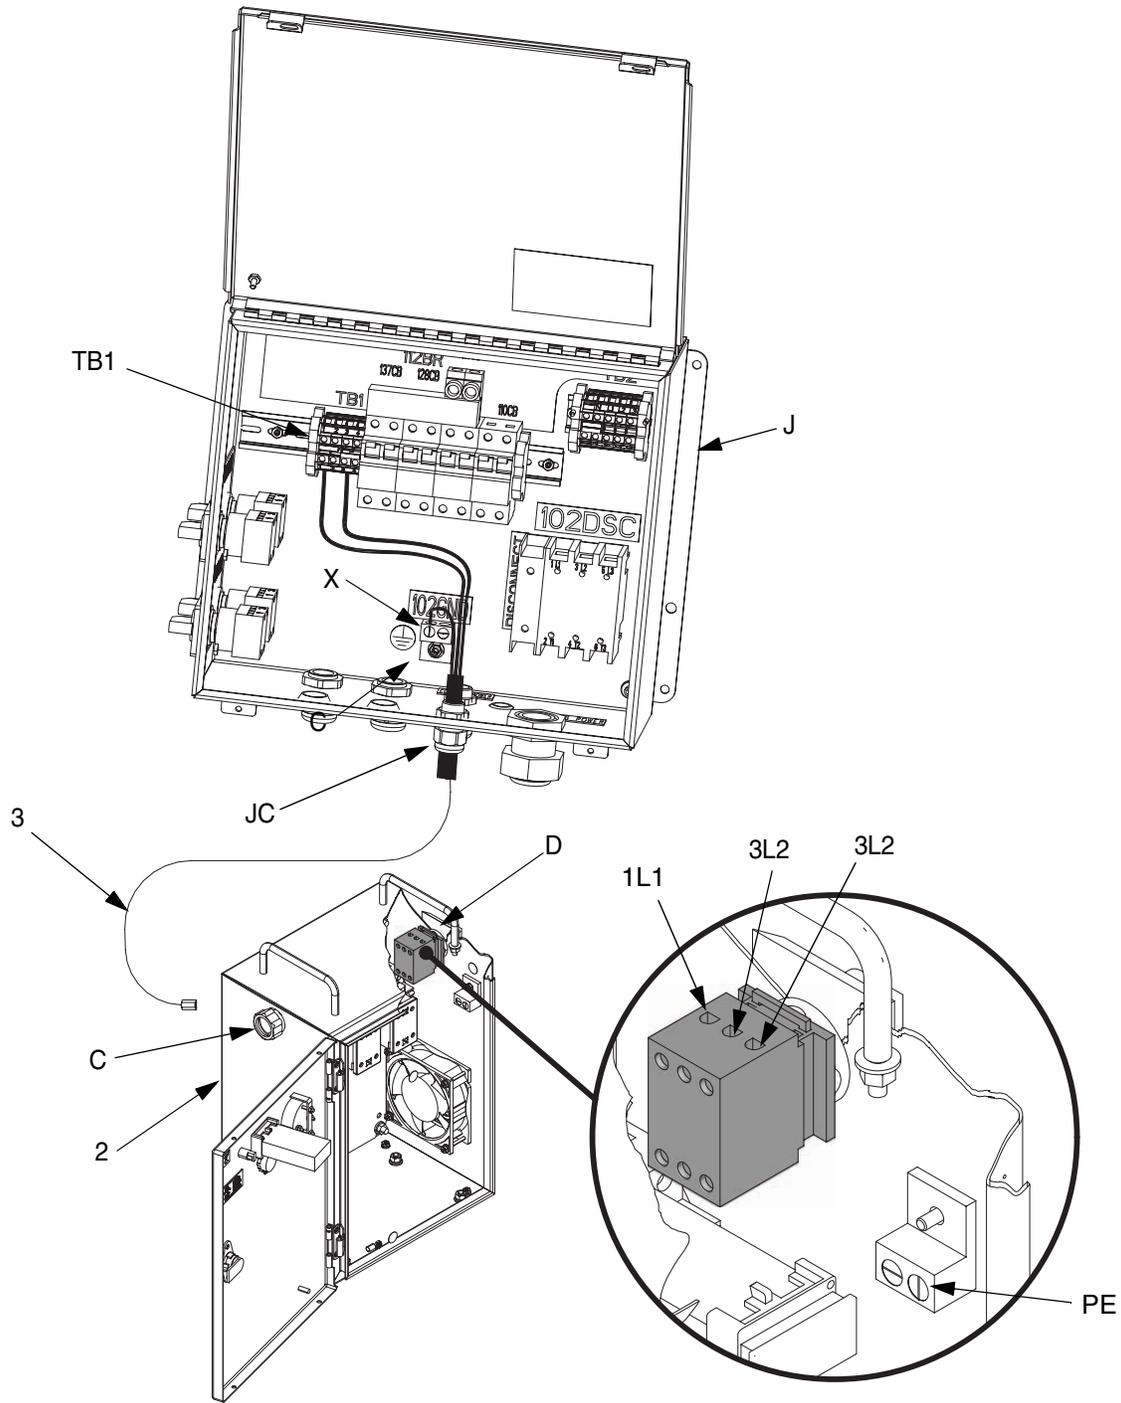

**FIG. 3: Main Disconnect Electrical Connections**
1. Turn off power to junction box (J).
2. Replace the supplied liquid-tight conduit connector (C) with cord restraint fitting (8). Thread the three wires of the power cord to the opposite side of the cabinet for connection to the power inlet at the main disconnect (D). See FIG. 3.
4. Connect the external ground bond wire (Green or Green/Yellow) to the protective earth lug (PE). Secure with a 3/8 or 7/16 flat-bladed screwdriver. Tighten to 35 in-lb (4 N•m).